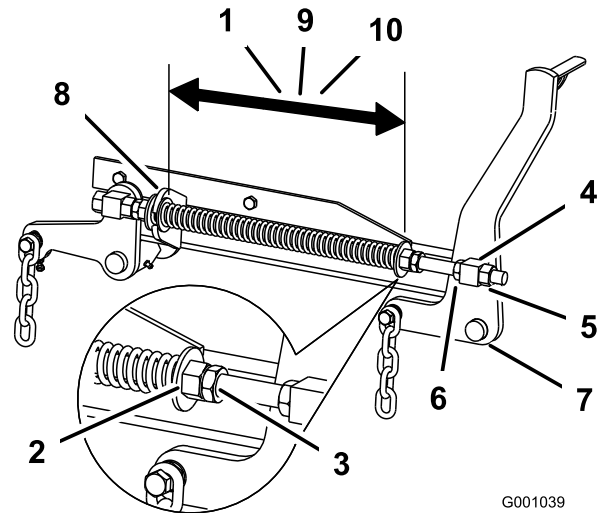

Figure 100
2. Check the distance between the 2 large washers, it needs to be 28.2 cm (11-1/8 inches) for 52 inch mower decks, 26.7 cm (10-1/2 inches) for 60 inch mower decks, or 29.2 cm (11-1/2 inches) for 72 inch mower decks (Figure 100).
3. Adjust this distance, by loosening the spring-jam nut and turning the nut in front of each spring (Figure 100).
4. Lock the nut into position by tightening the spring-jam nut (Figure 100).